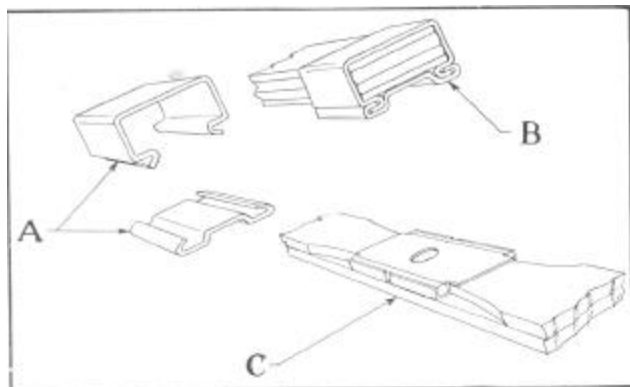

Figure 8
NOTE: The second leaf of the front springs is made in two pieces. The outer end of each piece is formed around the eye of the main leaf, while the inner ends of each are guided by a plate (Sketch C), Figure 8, through which the center bolt passes. This plate should be assembled between the second and third leaves with the flanges upward to guide the inner ends of the second leaf.
42. Put service spring clips (Sketch A), Figure 8, over spring leaves from top and slide clip cover in place on bottom (Sketch B), Figure 8.